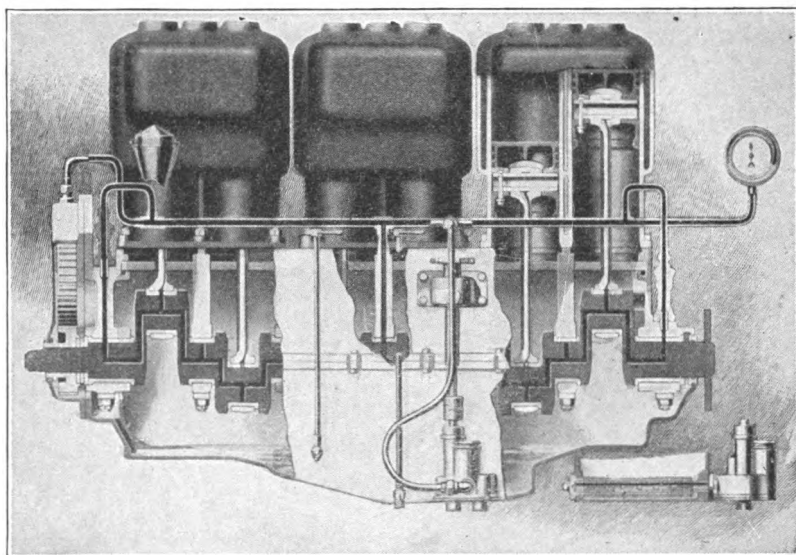

Fig. 213. Pressure-Feed Lubrication System on Pierce-Arrow Cars
In the splash-pressure system, the oil to all the crankshaft and connecting-rod bearings, to the timing gears, and to the upper portion of the cylinder walls is supplied through the medium of a gear-oil pump driven usually by worm gearing from the camshaft. The other bearings within the engine are lubricated by oil spray thrown from the crankshaft. Such a system is shown in Fig. 213.
**Single-Pump Pressure Feeding.** The drilled crankshaft, as shown in Fig. 213, is a necessity in all pressure systems, as it also is in all combination splash-pressure systems. This can be seen, and perhaps the whole system explained more clearly, by referring to Fig. 215. In this the single pump working direct is used, thus differing from the reservoir system explained above. This diagram shows also how the oil is forced to flow through the three bearing leads to